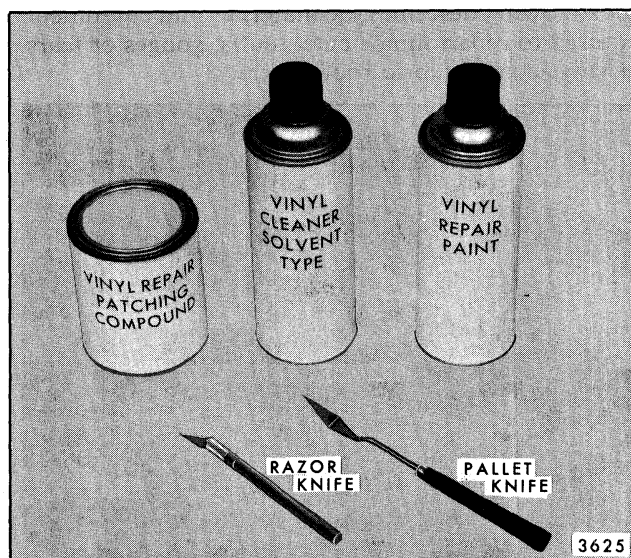

Fig. 8-61-Fabric Roof Cover Repair Materials and Tools
2. Pallet knife - a small trowel used for applying vinyl repair patching compound (Fig. 8-61).
3. Razor or sharp knife - to be used for removing frayed edges from damaged area prior to application of vinyl patching compound (Fig. 8-61).
6. Vinyl repair patching compound - a heat curing, milky colored, heavy bodied plastisol for repairing cut, torn, scuffed or gouged vinyl roof cover material (Fig. 8-61).
3. Vinyl cleaner (solvent type) - for removal of wax, silicone, oil, etc., from repair area (see Fig. 8-61).
5. Vinyl repair paint - an approved, durable, waterproof, weather-resistant, pliable vinyl paint for final color refinishing (see Fig. 8-61).
6. Pallet knife - a small trowel for applying patching compound to repair area (see Fig. 8-61).